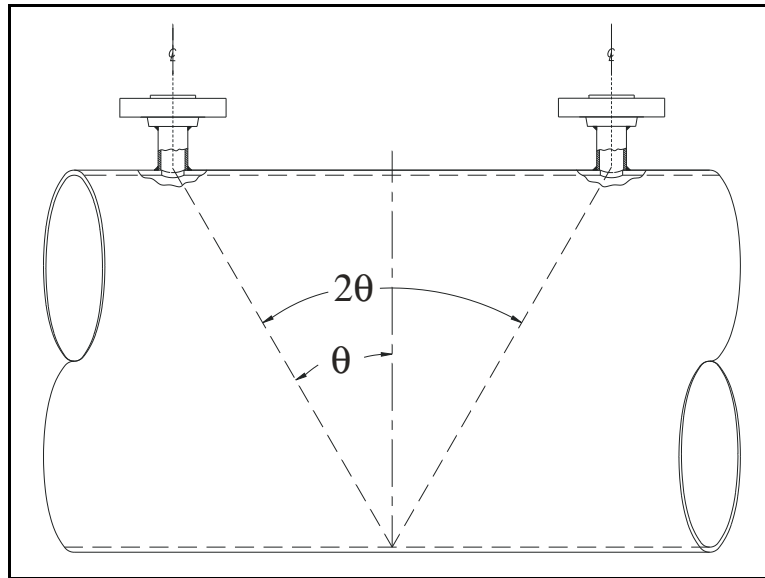

Figure 3: Welding the Nozzles with Flanges to the Pipe
4. Weld the 2 in., schedule 80 nozzles with pipe flanges to the two marked locations on the pipe. Be careful to maintain perpendicularity and parallelism as shown in *Figure 3* below.